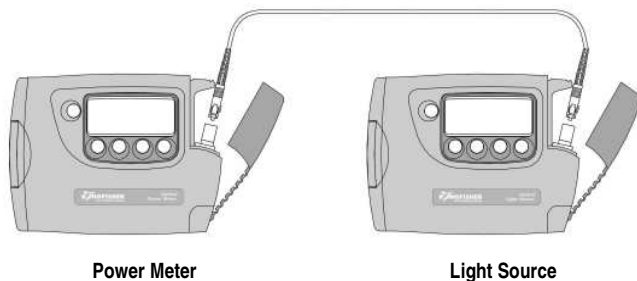

Figure 3. Test set-up for KI 3800 Light Source Short Term Stability Test
1. Connect the equipment as shown in Figure 3.